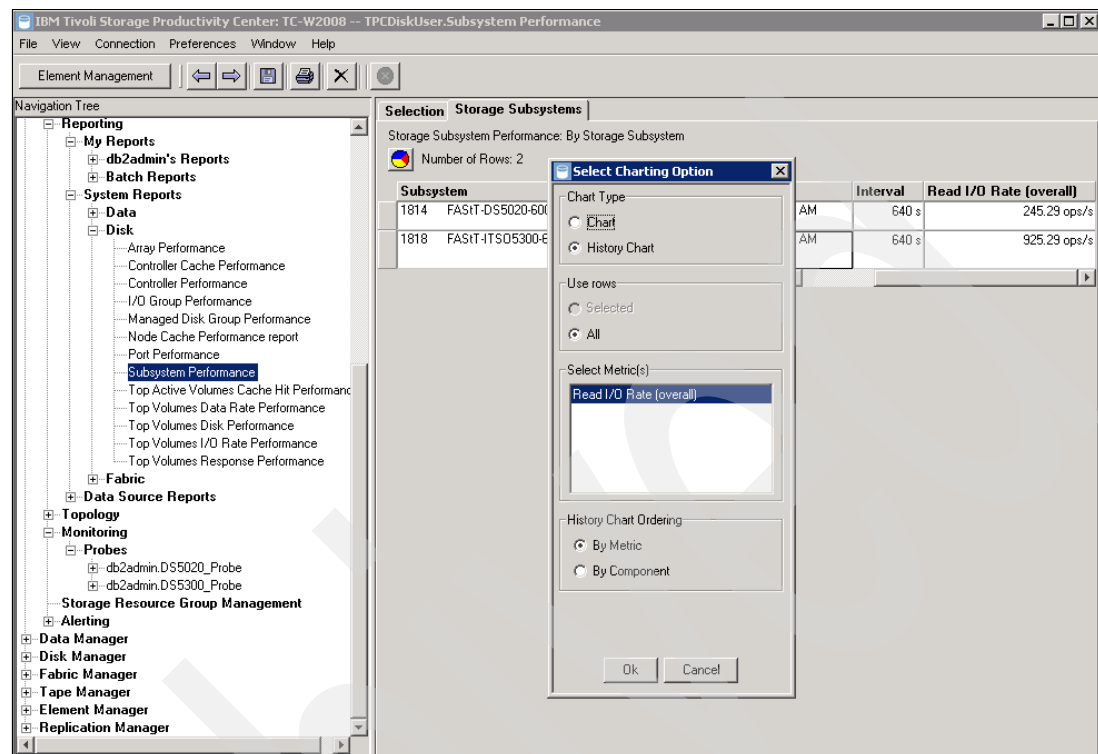

Figure 9-32 Select Charting Option
- We can now create a chart based on the generated report. Click chart  icon and select the chart type and rows of the report that you want to be included in the chart as well, as the performance metric to be charted (see Figure 9-32).